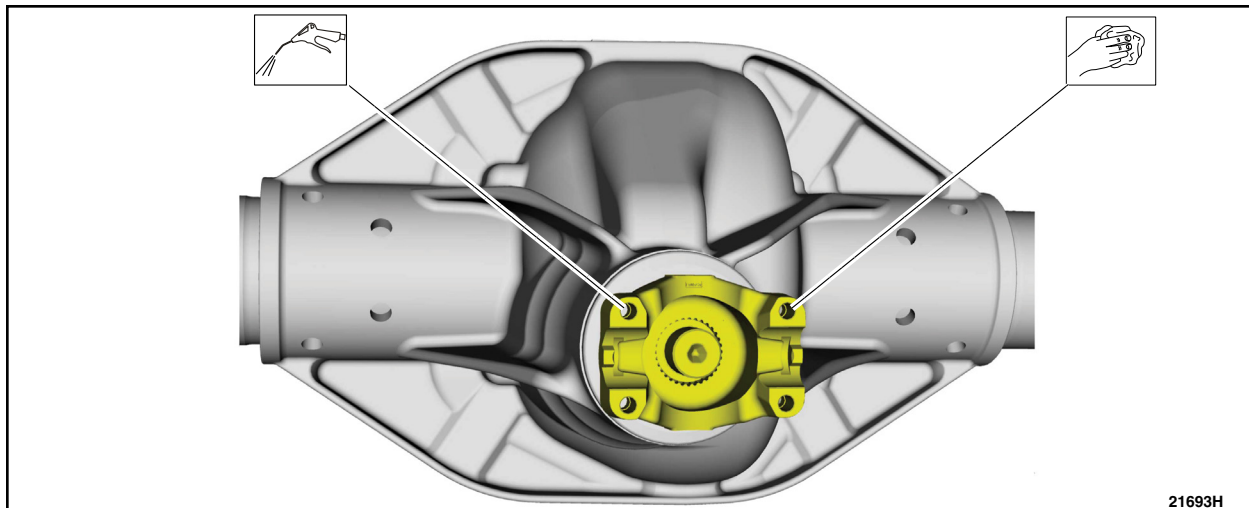

FIGURE 11
8. Using an air blow gun, remove any debris from threaded holes in axle flange. See Figure 11.